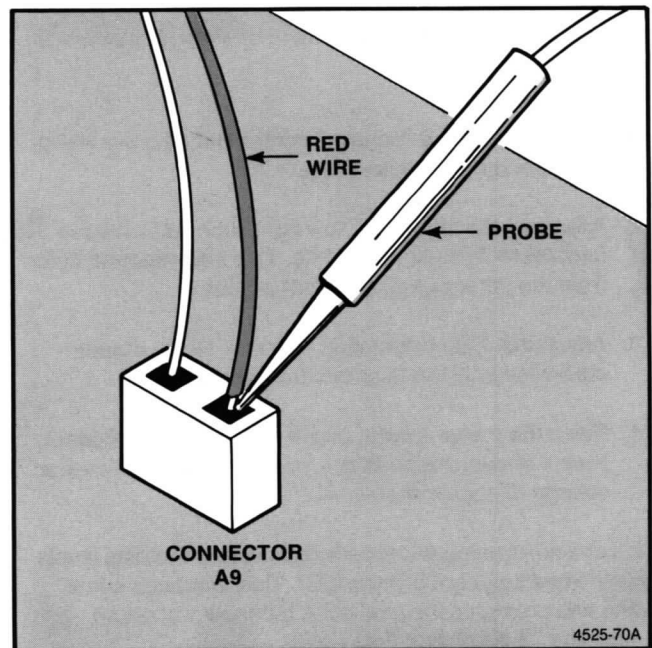

Figure 5-3. Obtaining G1 Voltage from Connector A9.
- Connect the digital voltmeter's ground cable to the chassis, and place the meter's voltage probe so it makes electrical contact with red wire entering the top of connector A9. See Figure 5-3.